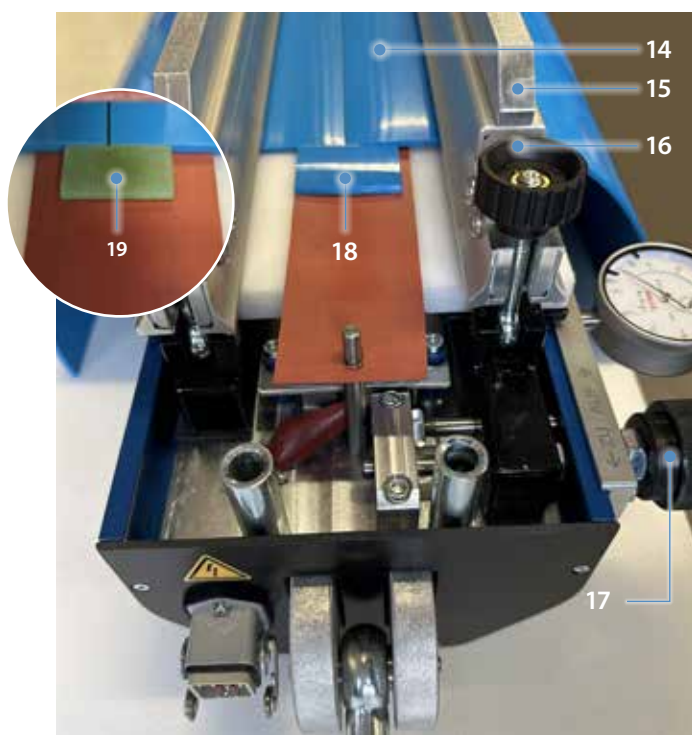

Fig. 4.2.6
- Shims (see fig. 4.2.6).
14. Apply slight pressure to position the second end of the belt (14) at the front to the first end of the belt and tighten the belt holder (15) evenly on both sides using the knurled screws (16). (Fig. 4.2.6)
15. If required, compress the belt material (only for FLT belt material) using the belt set screws (17). One turn equals 1 mm of compression. The infeed must be the same on both sides and can be read accurately on the dial gauge. (Fig. 4.2.6)
16. Place the piece of belt (18) or the shims (19) on both sides of the area to be spliced. The shims must be 0.1 mm thinner than the belt material. They prevent the bonded material from seeping out of the sides. (Fig. 4.2.6)